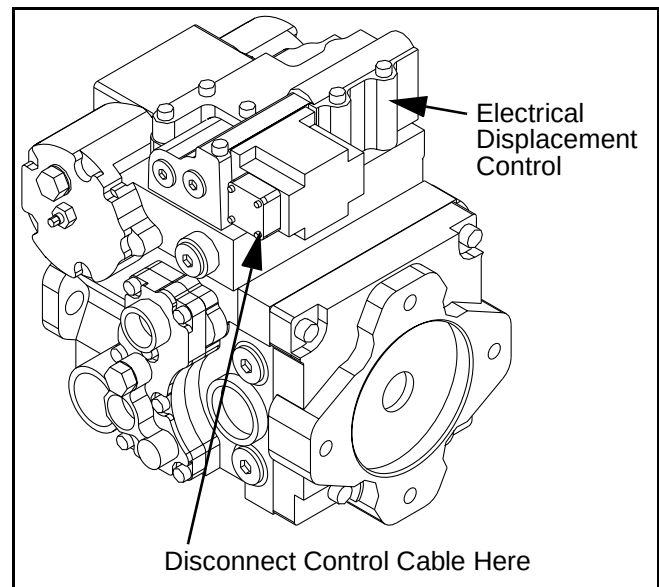

Figure 5 - 23 Electrical Displacement Control
- 8) Disconnect the Electrical Displacement Control at the pump controller. (Figure 5 - 23)